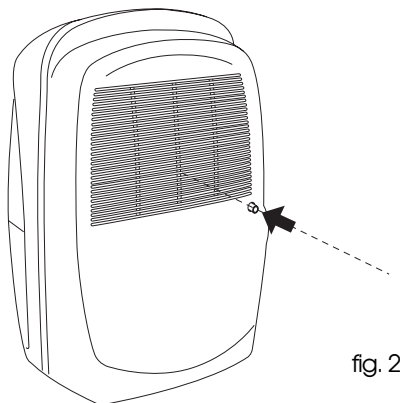

fig. 2
- 1) Drill the inside of the drain spout using a narrow drill bit. (Fig. 2)